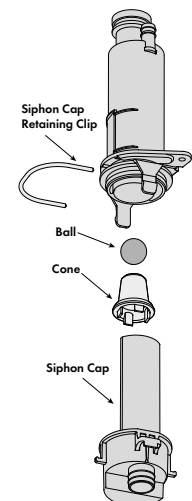

Figure 104 - Clean the Condensate Trap
2. Working from below the boiler, remove the siphon cap retaining clip. Then remove the siphon cap by depressing the two (2) lateral hinges (use a tool if necessary).
**NOTE:** Ensure all parts shown in Figure 104 are installed with the boiler. If any parts are missing **DO NOT** operate the boiler. Replace the entire condensate trap assembly.